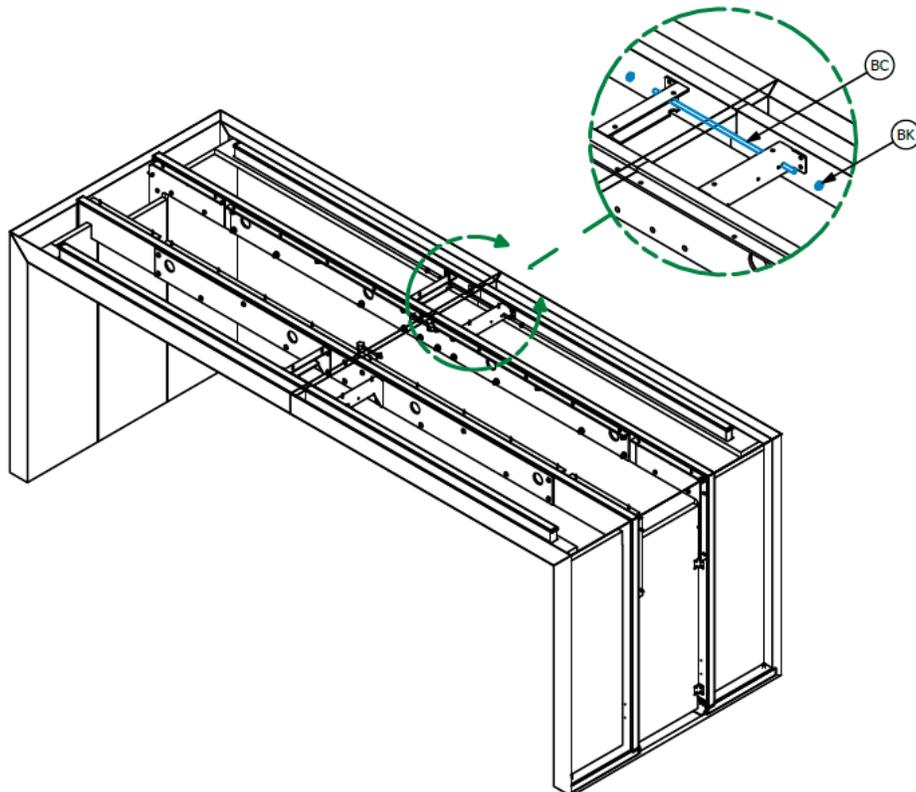

Fig. 06: Threaded Rod Install
2.1.6 With Shipping Frames now removed, use a 7/16" Wrench and External Hex Driver to install Threaded Rod (BC) and Hex Nut (BK) thru holes on X-Braces. Threaded Rod should be approximately centred when fully secured. [Fig. 06]